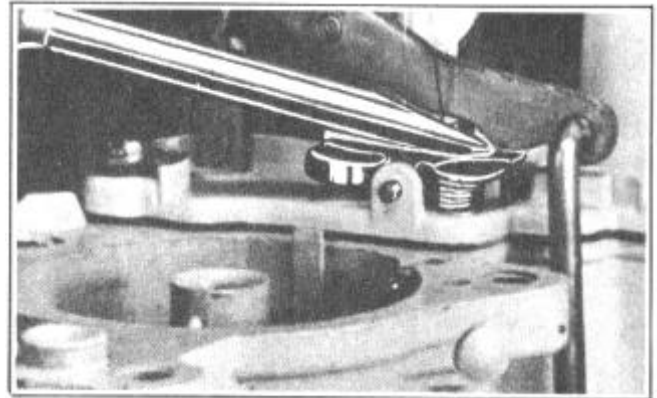

FIGURE 9
3. Adjust by bending rocker arm, Figure 9.